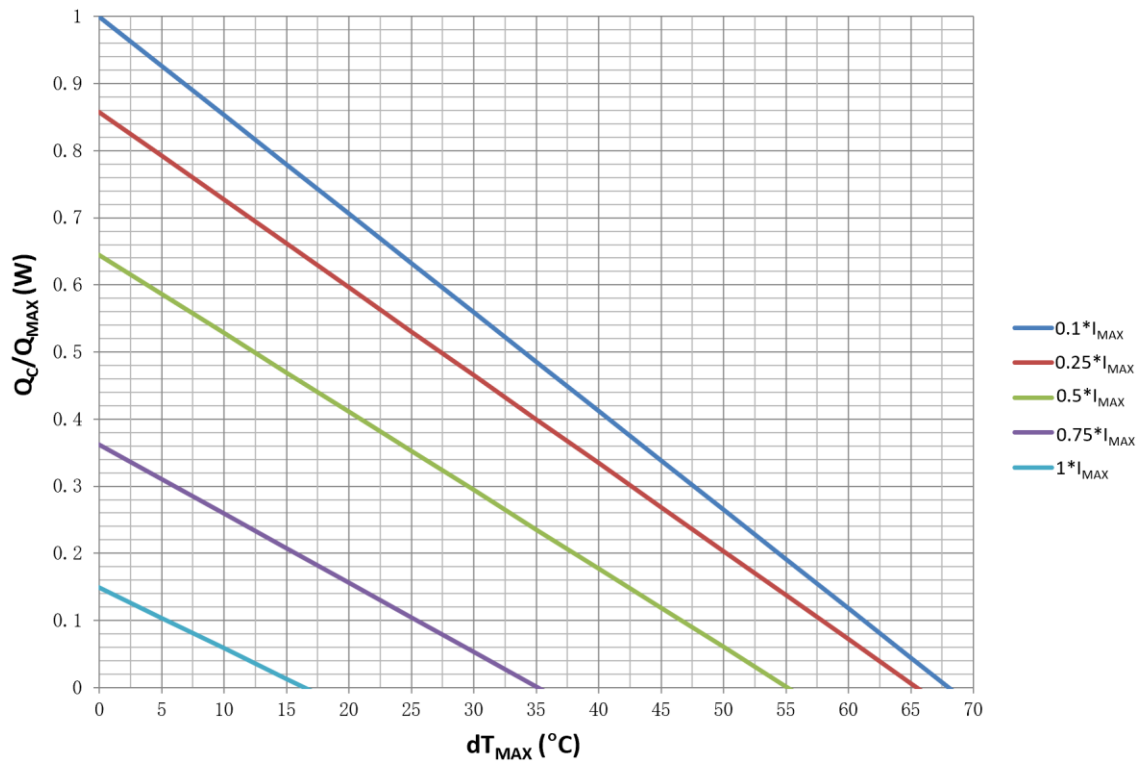
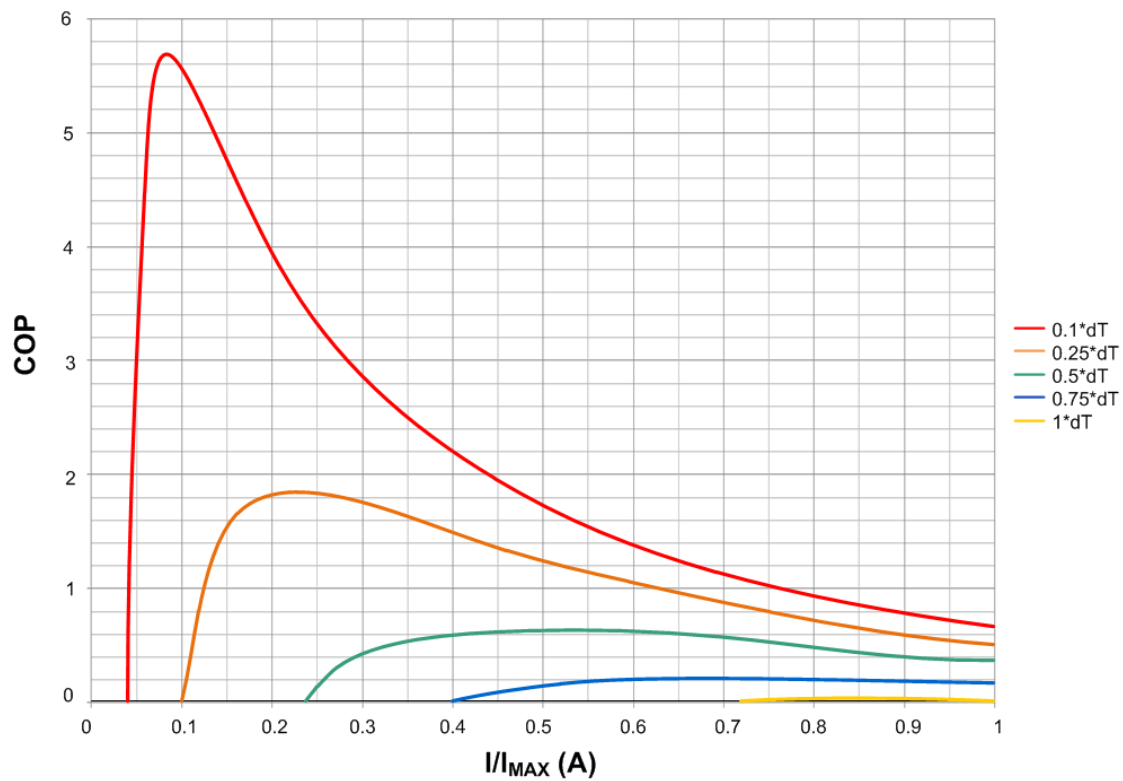

Figure 2. Q_C/Q_{MAX} vs. dT_{MAX}
Figure 5. COP vs. I/I_{MAX}
5. Use the charts provided in Figure 2 to Figure 5, to decide which TEC to use, what is the heat needed to be dumped through the heat sink, what is the heat sink temperature, etc.